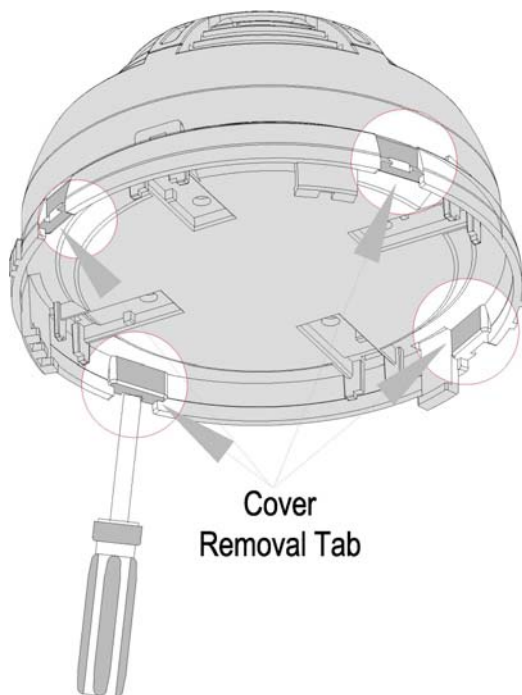

Figure 11
1. Remove the detector cover by snipping away the four sides tabs using a flat screw driver and then pulling the cover from the base. (Figure 11).